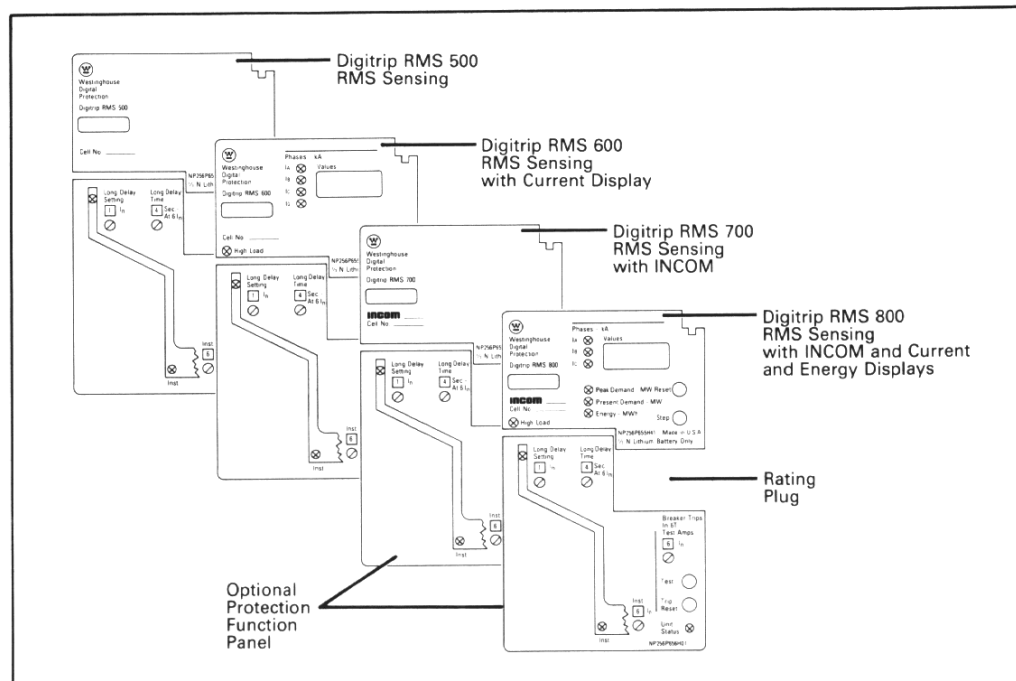

Fig. 3-5. Digitrip RMS Trip Unit Models
Digitrip RMS Trip Units are available in four basic models, RMS 500, 600, 700 and 800, as shown in Fig. 3-5. Each trip unit has adjustable current protective settings for the Long Time (L), Short Time (S), Instantaneous (I), and Ground Fault Time (G) Delay trip functions selected. Short Time (S) and Ground Fault (G) Delays are equipped with an adjustable setting for a flat or an  $I^2t$  response. The adjustable settings are step-type, expressed in terms of the  $I_n$  (continuous current) rating of the breaker. LEDs provide mode of trip indications for the L, S, I, and G trip functions. Additional features for each model are detailed in Sections 4 through 7 of this instruction leaflet.